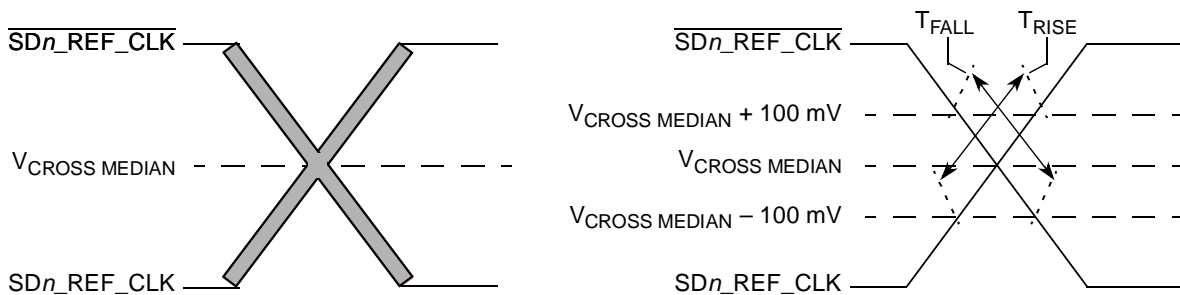

Figure 32. Single-Ended Measurement Points for Rise and Fall Time Matching
4. Matching applies to rising edge rate for $\overline{SDn_REF_CLK}$ and falling edge rate for $\overline{SDn_REF_CLK}$. It is measured using a 200 mV window centered on the median cross point, where $\overline{SDn_REF_CLK}$ rising meets $\overline{SDn_REF_CLK}$ falling. The median cross point is used to calculate the voltage thresholds the oscilloscope is to use for the edge rate calculations. The rise edge rate of $\overline{SDn_REF_CLK}$ should be compared to the fall edge rate of $\overline{SDn_REF_CLK}$, the maximum allowed difference should not exceed 20% of the slowest edge rate. See Figure 32.